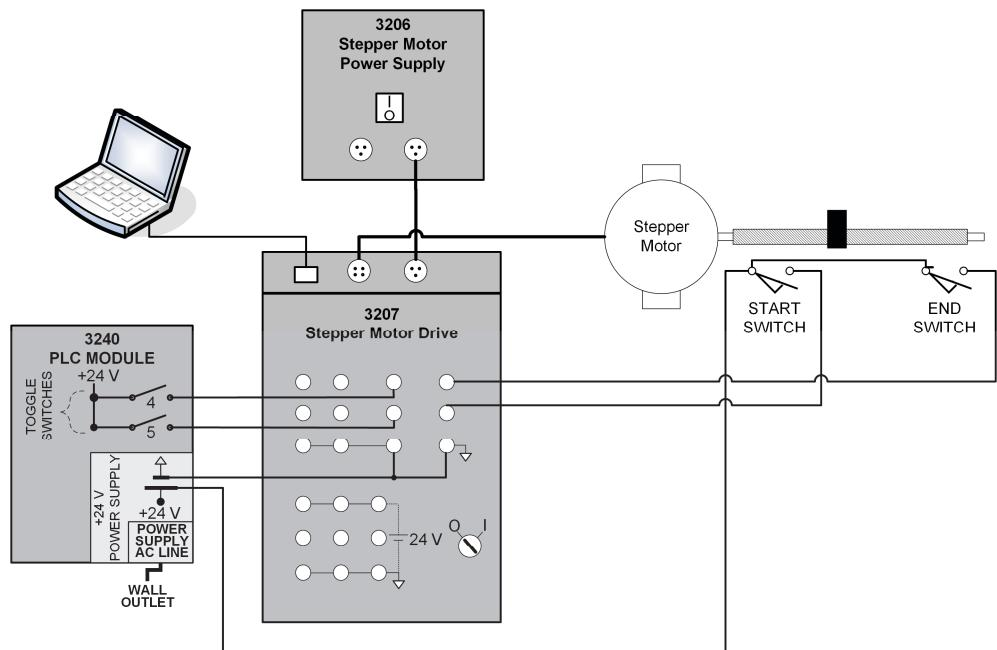

Figure 9. Stepper Motor Drive test circuit.
- Connect the Electromechanical – Stepper Motor System according to Figure 9. All toggle switches must be turned off (down position). The sliding block must stand at an intermediate position.